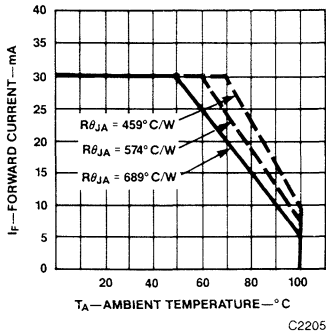

Fig. 5. Maximum Forward DC Current vs. Ambient Temperature. Derating Based on $T_J \text{ MAX} = 110^\circ\text{C}$.
3. Derate linearly as shown in Figure 5.